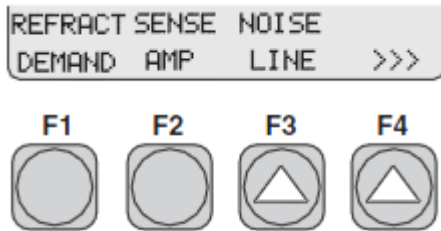

Fig 10
- *** If at the completion of the “sense amp” test press “Esc” 3 times to go to the main menu. Fig 10